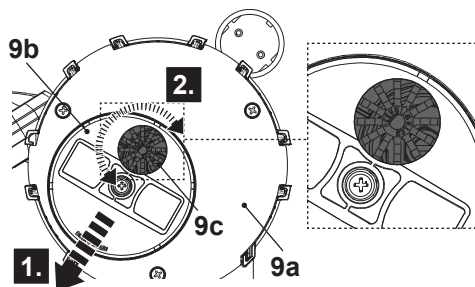

Fig. 7
1. Lift the function cover (9b) to make it disengaged, then turn it to make the clear water inlet (9c) stay in the center of bottom plate (9a) (Fig. 7).